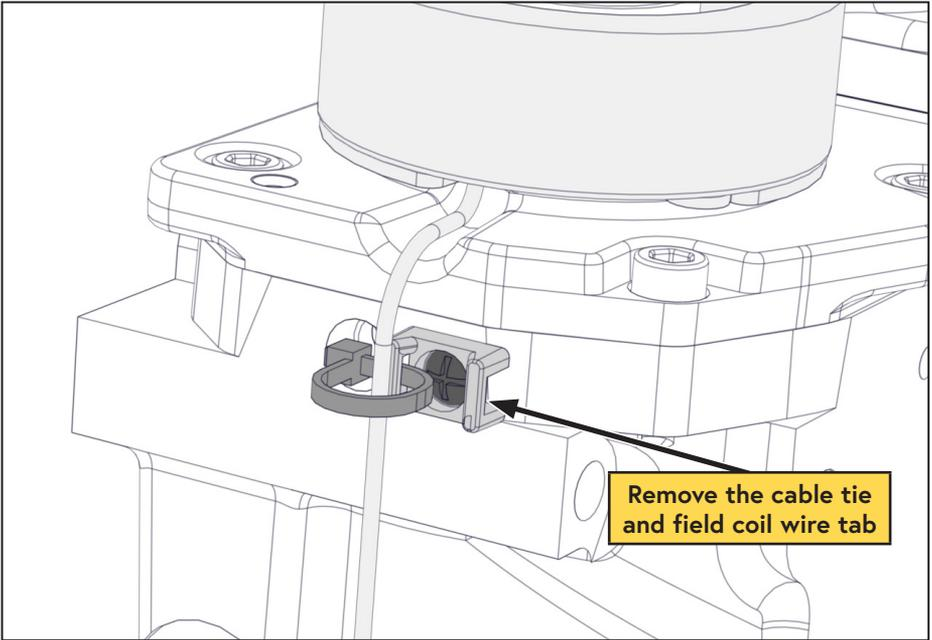

Figure 7 — Free the field coil wire
- Cut the cable tie securing the field coil wire (Figure 7).
- Remove the screw securing the cable tie tab on side of compressor; set the screw and tab aside for use later (Figure 7).